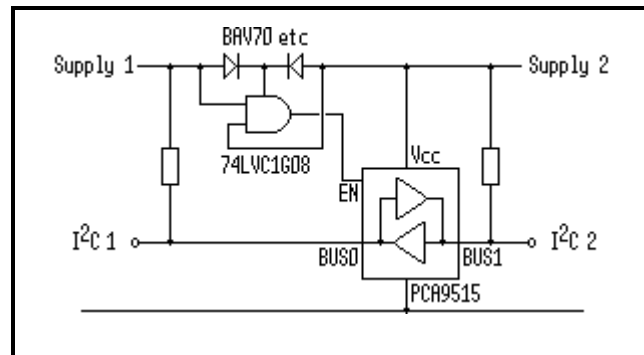

Figure 2. Multiple Voltage Sensing Example
6. Sensing multiple power supplies on different bus segments and providing automatic isolation of failed segments or segments suffering ‘brown-out’ of their power supplies. An example of such sensing using the PCA9515 is shown in Figure 2. In this example a failure of EITHER Supply 1 OR Supply 2 will cause I2C 1/Bus0 to be disconnected from I2C 2/Bus1. The PCA9512 with its two VCC supplies and ACC pin can also be used in this application by tying ACC to VCC.